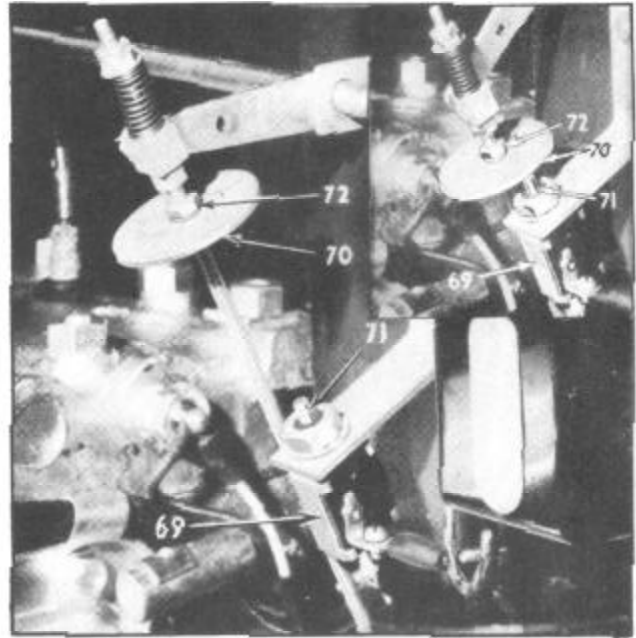

Figure 47--Overdrive Throttle Switch
20. Connect overdrive control wire and adjust length at the button to provide 1/8" clearance between control button and bracket when lever is in extreme rear position and secure wire at control lever. See Figure 47.
The overdrive throttle switch (69), Figure 47, should operate only when the accelerator is depressed beyond wide-open throttle. This adjustment should be made so that when the accelerator is depressed to wide-open throttle, the contact washer (70) should just be making contact with the switch plunger (71).